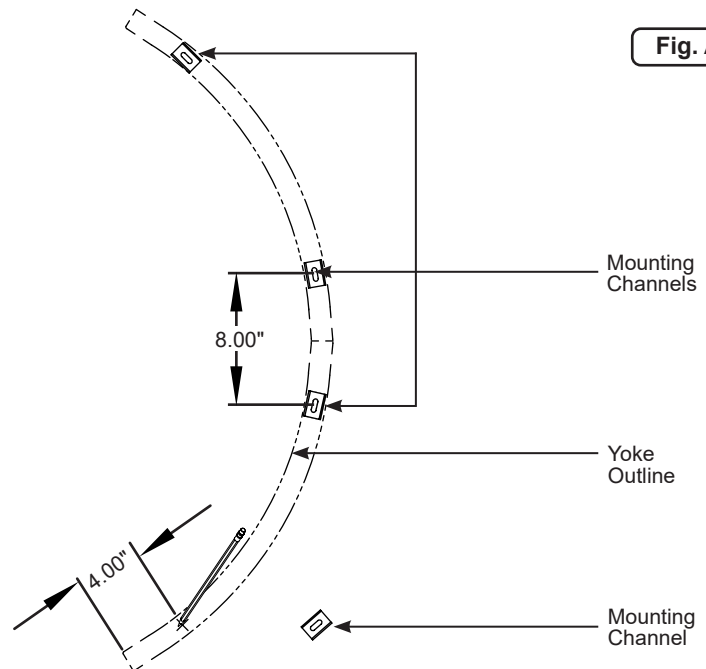

Fig. A4
- Locate the four (4) Yoke mounting channels. Position the mounting channels within the traced outline, as noted in Step 3. All mounting channels should be placed 4" from each end of the two Yoke assemblies (Figure A4).